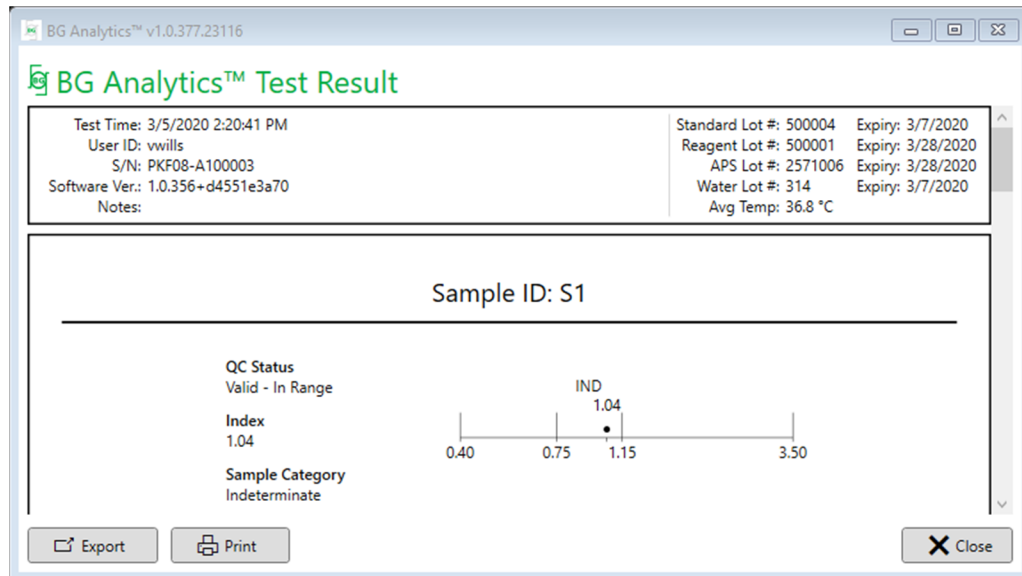

Figure 17. BG Analytics® Test Results Report for Sample P1 with Indeterminate Result
BG Analytics® will display **Test Result** report. An example of a report is shown in Figure 17
- Quality Control (QC) Status, Index, Sample Category
- Index value falling within the range of 0.40 to 3.50 will be marked within the graphic. Indeterminate Index will be marked between 0.75 and 1.15. An example of a sample with valid QC Status and Indeterminate Index value is shown in Figure 17.